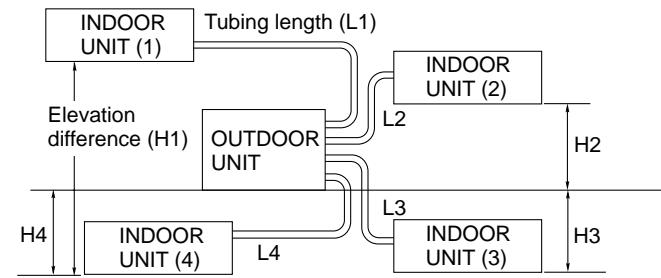

Fig. 3a
- install the unit within the maximum elevation difference ( $H_1, H_2, H_3, H_4$ ) above or below the outdoor unit and within a total tubing length ( $L_1+L_2, L_1+L_2+L_3, L_1+L_2+L_3+L_4$ ) from the outdoor unit as detailed in Table 3 and Fig. 3a.